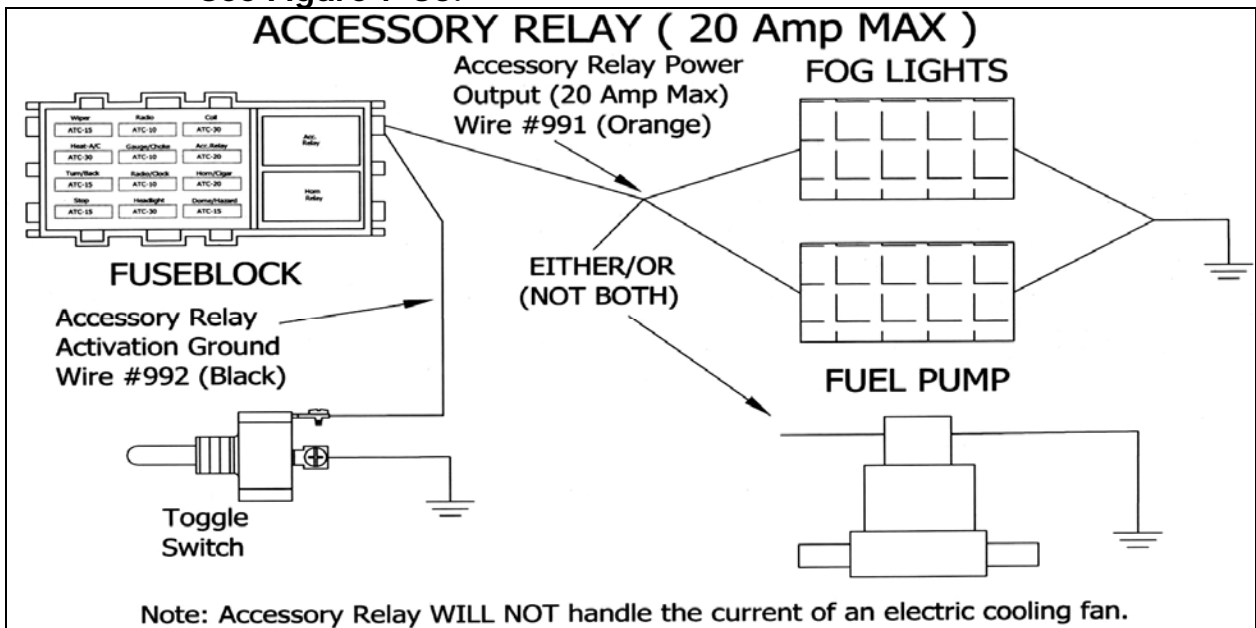

Figure 7-30 Accessory Relay Diagram
7.18.1 The final component in this Mustang chassis harness is a 20amp accessory relay output. The relay is preinstalled in the fuse block, powered, and fused. See Figure 7-30.